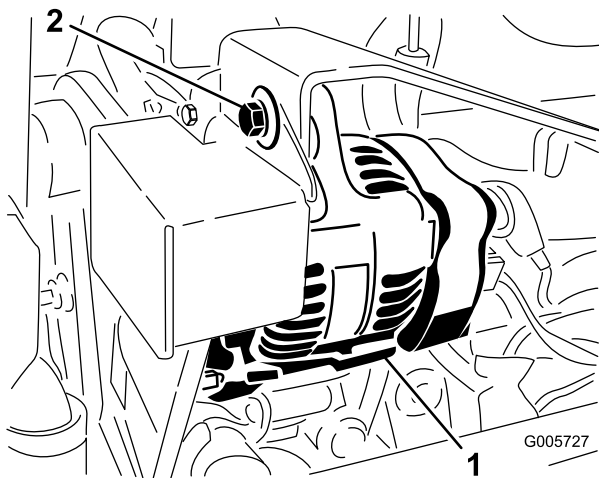

Figure 63
2. Proper tension will allow 3/8 inch (10 mm) deflection when a force of 10 lbs. is applied on the belt (Figure 63) midway between the pulleys.